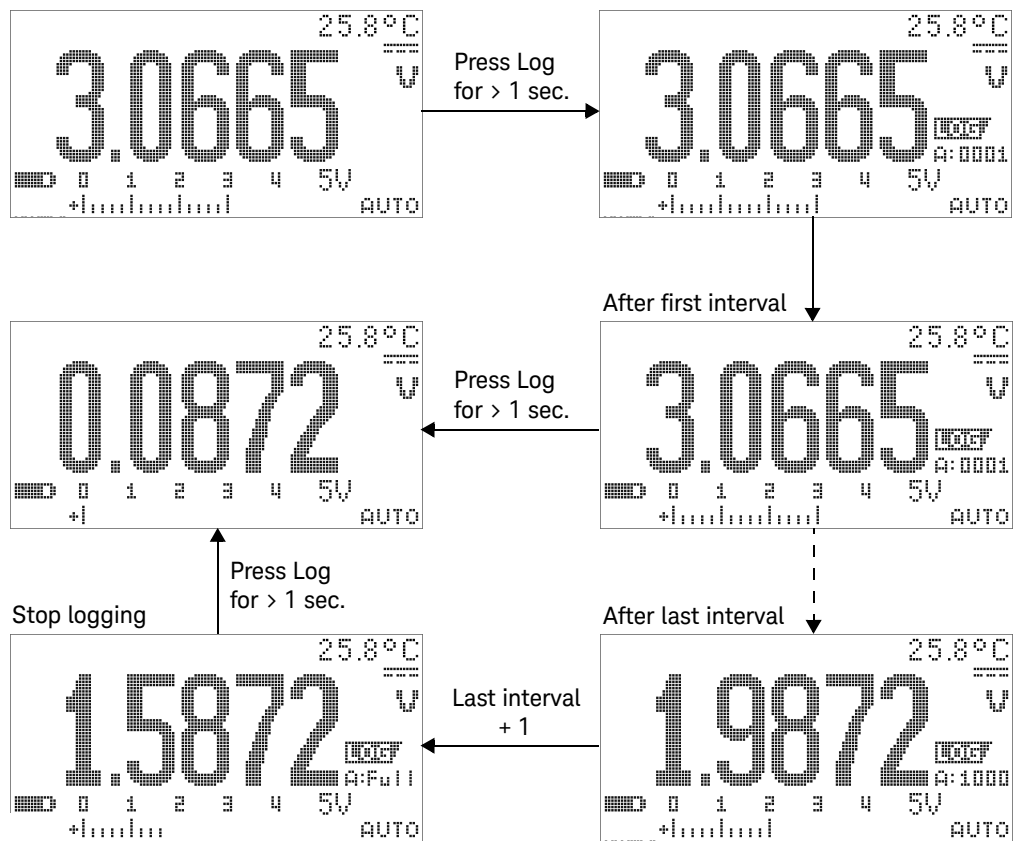

Figure 3-10 Interval (time) logging mode operation
- 1 Press  for more than 1 second to store the present value and function on the primary display into the non-volatile memory. The  and the logging index will be indicated. Subsequent readings are automatically logged into the memory at the interval (LOG TIME) specified in Setup mode. Refer to Figure 3-10 on page 98 for how to operate this mode.